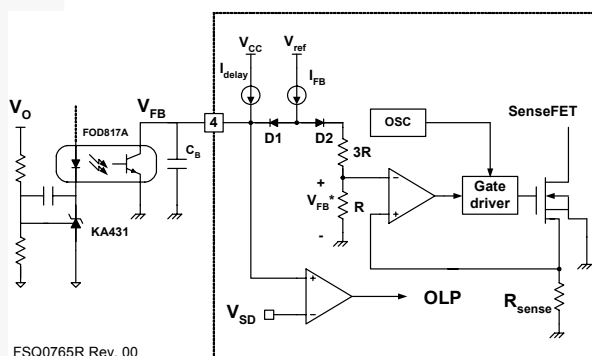

Figure 23. Pulse-Width-Modulation (PWM) Circuit
**2. Feedback Control:** FPS employs current-mode control, as shown in Figure 23. An opto-coupler (such as the FOD817A) and shunt regulator (such as the KA431) are typically used to implement the feedback network. Comparing the feedback voltage with the voltage across the  $R_{sense}$  resistor makes it possible to control the switching duty cycle. When the reference pin voltage of the shunt regulator exceeds the internal reference voltage of 2.5V, the opto-coupler LED current increases, pulling down the feedback voltage and reducing the duty cycle. This typically happens when the input voltage is increased or the output load is decreased.
**2.1 Pulse-by-Pulse Current Limit:** Because current-mode control is employed, the peak current through the SenseFET is limited by the inverting input of PWM comparator ( $V_{FB}^*$ ), as shown in Figure 23. Assuming that the 0.9mA current source flows only through the internal resistor ( $3R + R = 2.8k$ ), the cathode voltage of diode D2 is about 2.5V. Since D1 is blocked when the feedback voltage ( $V_{FB}$ ) exceeds 2.5V, the maximum voltage of the cathode of D2 is clamped at this voltage, clamping  $V_{FB}^*$ . Therefore, the peak value of the current through the SenseFET is limited.